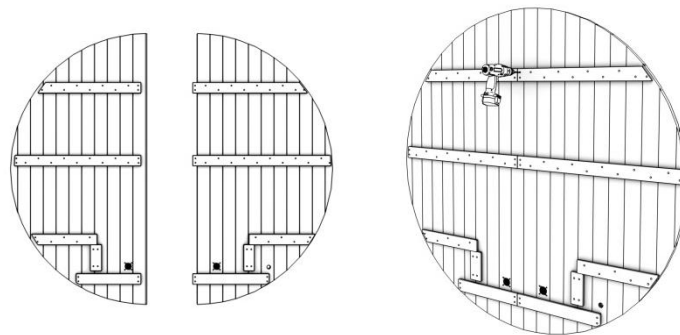

figure 5a
- A. First, locate the two pieces that make up the rear wall panel. Use the provided screws to attach the two rear wall pieces together. See figure 5a.